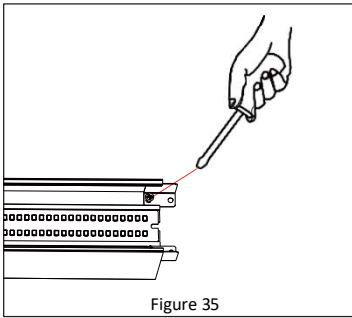

Figure 35
5. Tighten the screw on each baffle. **See Figure 35.**